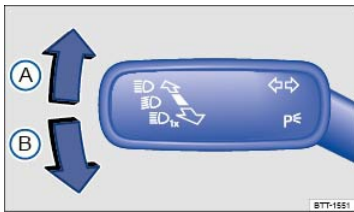

Fig. 90 To the left of the steering wheel: Turn signal and high beam lever.
- Move the turn signal and high beam lever ⇒ *Fig. 90* to position: